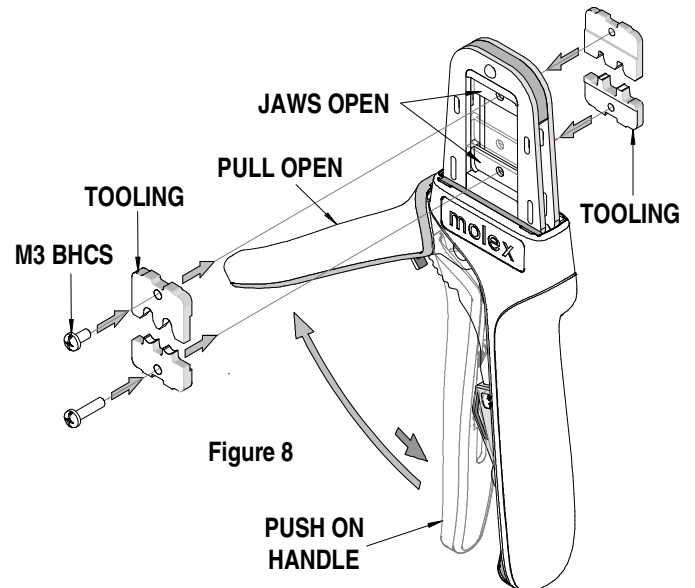

Figure 8
3. Flip the upper tooling to the opposite side and replace the M3 BHCS. Make sure the small markings on the front and the back of the hand tool frame match up and are on the outside of the hand tool frame. See Figure 8 and 9.